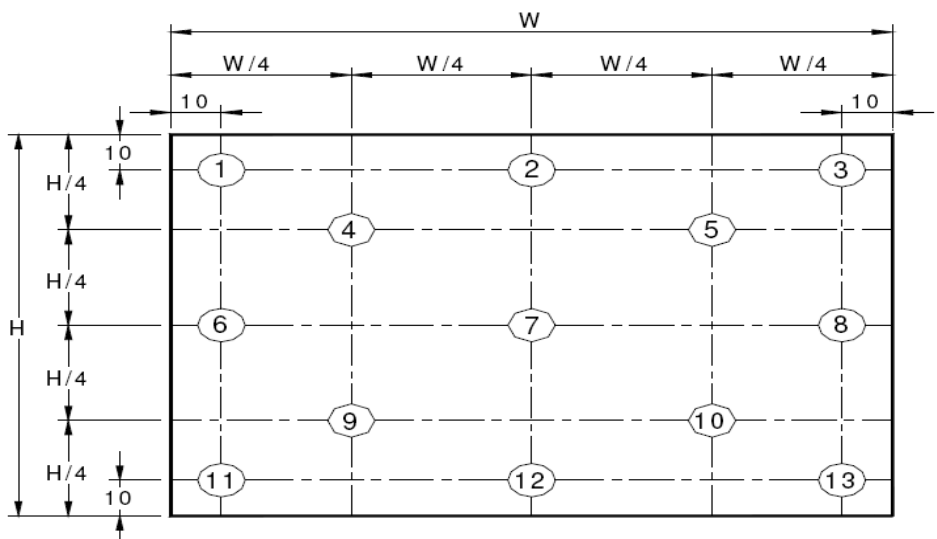

Figure 9. Uniformity Measurement Locations (13 points)
4. The White luminance uniformity on LCD surface is then expressed as : ΔY =Minimum Luminance of 5(or 13) points / Maximum Luminance of 5(or 13) points.(see Figure 8 and Figure 9).
The White luminance uniformity on LCD surface is then expressed as : $\Delta Y5$ = Minimum Luminance of five points / Maximum Luminance of five points (see Figure 8) , $\Delta Y13$ = Minimum Luminance of 13 points /Maximum Luminance of 13 points (see Figure 9).